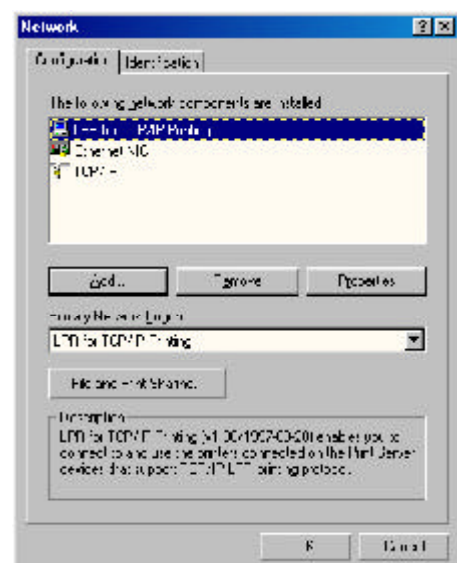

Fig. 4.11
Step 10 Select **LPR for TCP/IP Printing** and click **Properties**. See *Fig. 4.11*